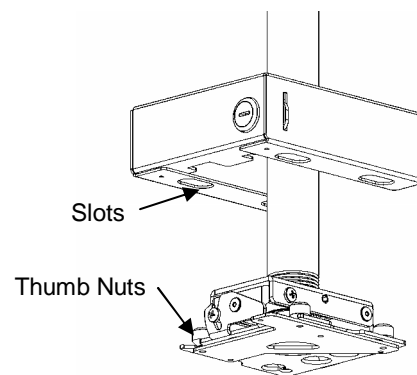

Figure 4. Slots Over Thumb Nuts
3. Slide slots in bottom of Main Bracket (10) over thumb nuts of projector mount (see Figure 4).